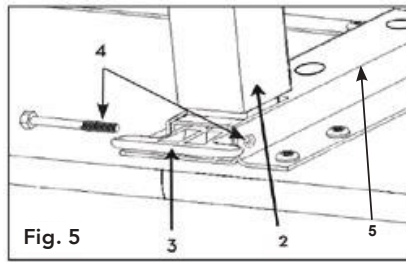

Fig. 5
4. Align horizontal hole in tabletop Mounting Bracket (5) with horizontal hole in Column Assembly (2) and hole through Release Handle (3). Insert Bolt (4) into horizontal hole & secure with Nut (4). Tighten with adjustable wrench. See Fig. 5.